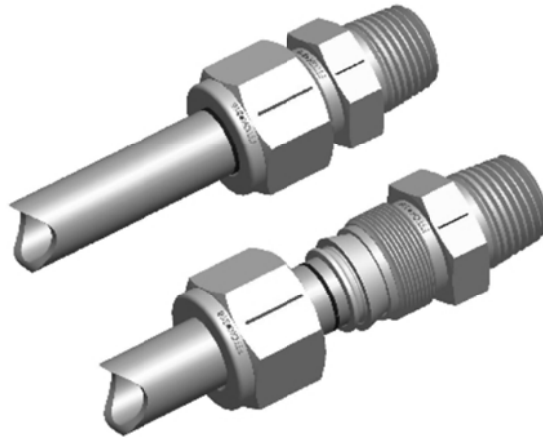

Figure 6
shown in Figure 6 (above).
4.2.1.2 Insert the ferrule and tube assembly into the body until the front ferrule seats, as shown in Figure 6 (below).